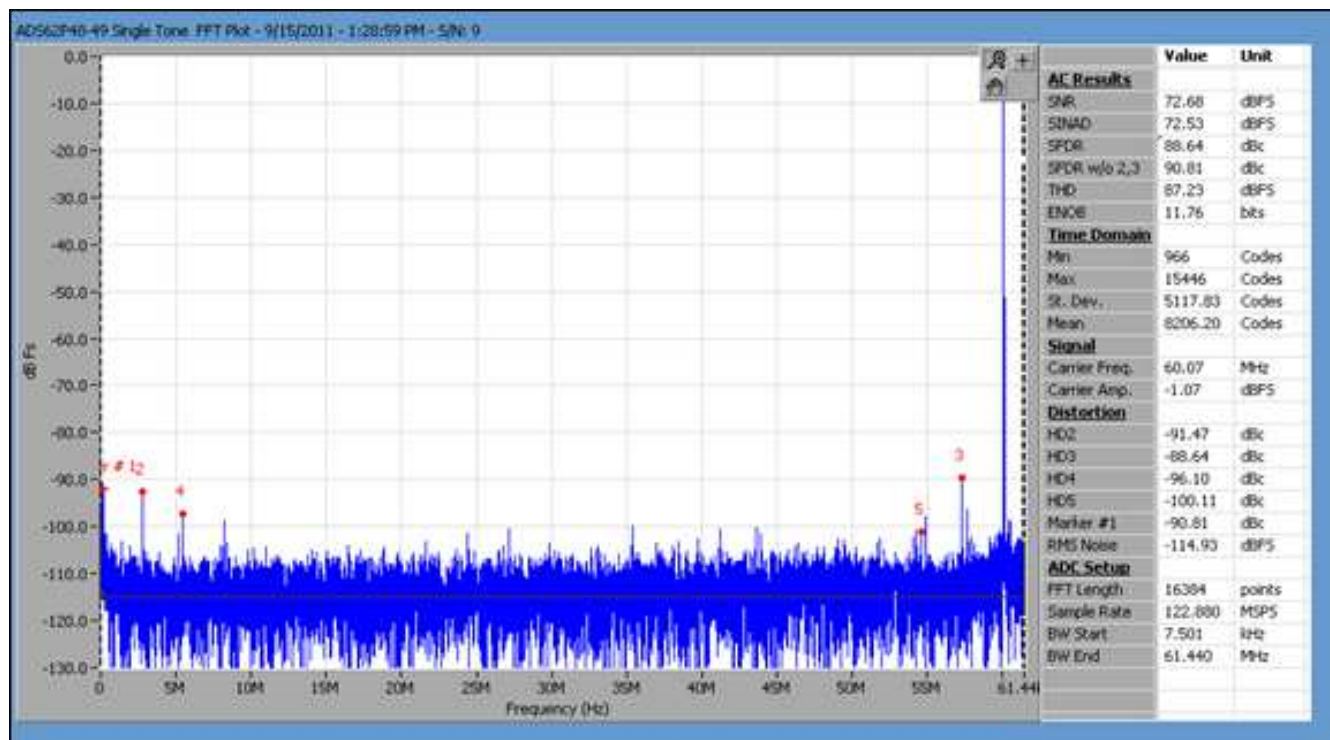
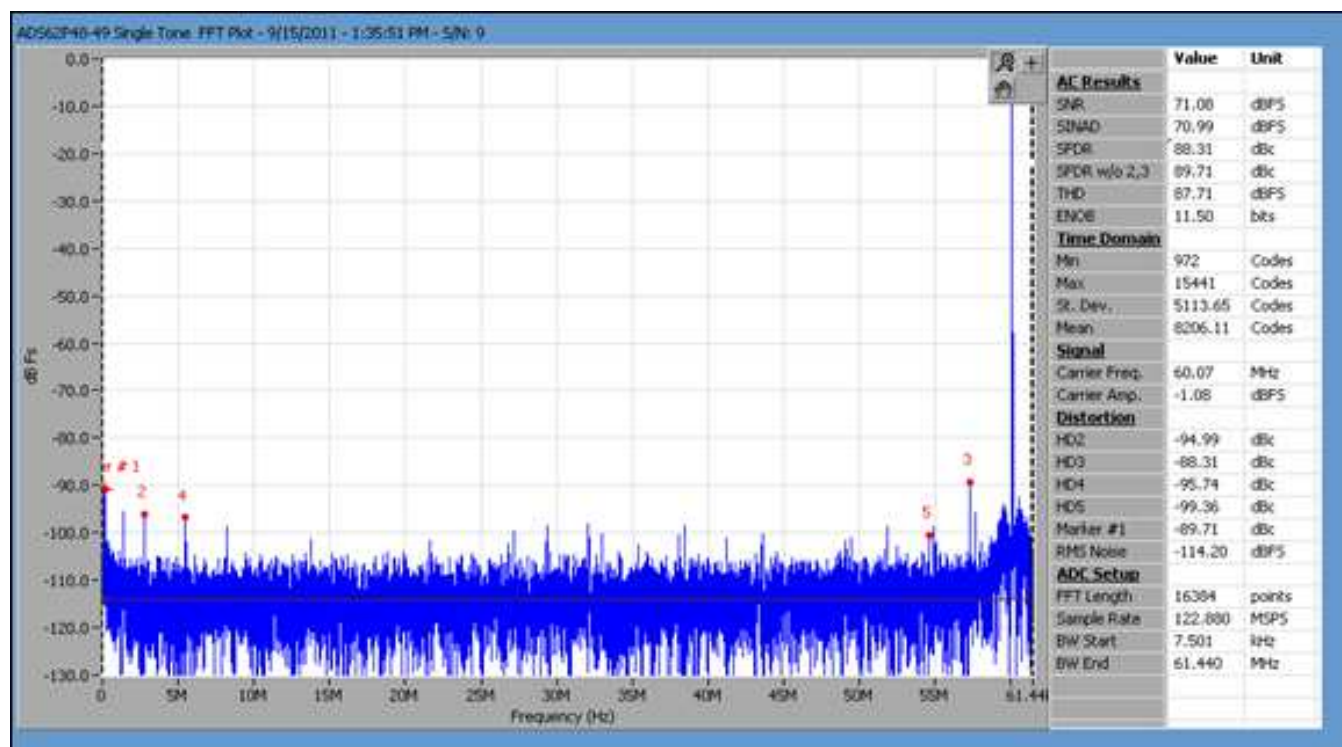

Figure 40. IF = 60 MHz Fclk = 122.88 MHz Baseline (Lab Clk Generator) ADC: ADS62P48-49
Figure 41. IF = 60 MHz Fclk = 122.88 MHz CDCM6208 driving ADC
**Observation:** up to an IF = 100 MHz, The ADC performance when driven by the CDCM6208 (Figure 41) is similar to when the ADC is driven by an expensive lab signal generator with additional passive source filtering (Figure 40).